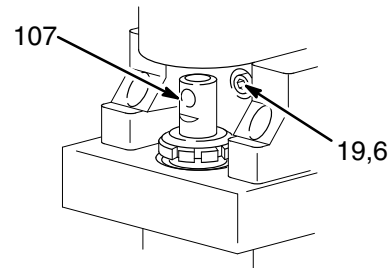
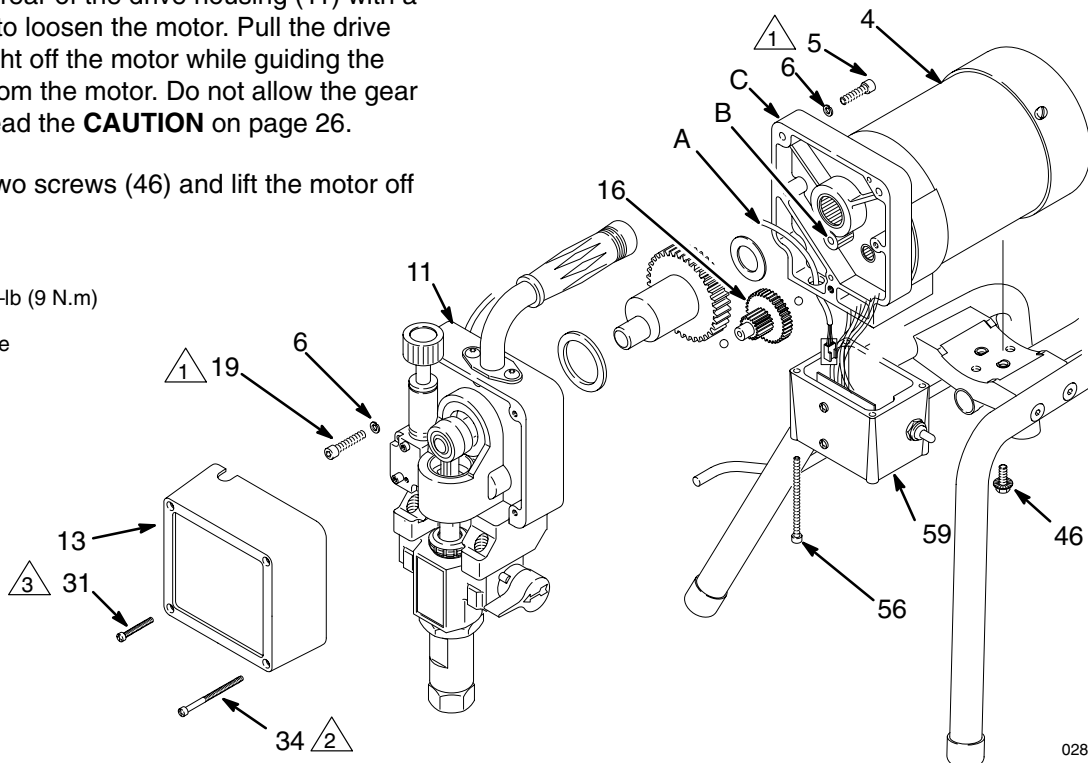

Fig. 26
Fig 27
**NOTE:** See Fig. 27 except where noted.
4. Remove the drive housing cover (13).
5. Turn the displacement pump rod (107) so the pin hole aligns with the bottom drive housing screw (19). See Fig. 26. Remove the three drive housing screws and lockwashers (19, 6). Also see Fig. 27.
7. Tap the lower rear of the drive housing (11) with a plastic mallet to loosen the motor. Pull the drive housing straight off the motor while guiding the harness (A) from the motor. Do not allow the gear (16) to fall. Read the **CAUTION** on page 26.
8. Remove the two screws (46) and lift the motor off the base (66).
9. Align the new motor with the base and reinstall the screws (46).